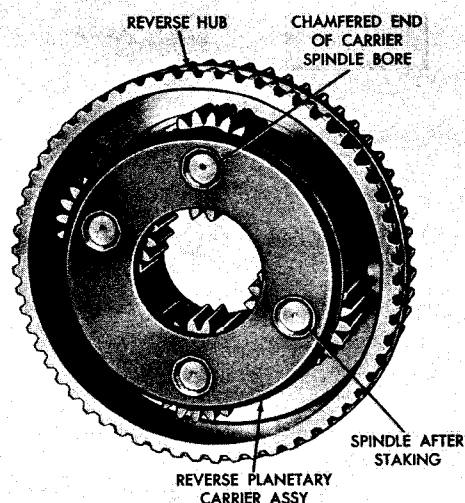
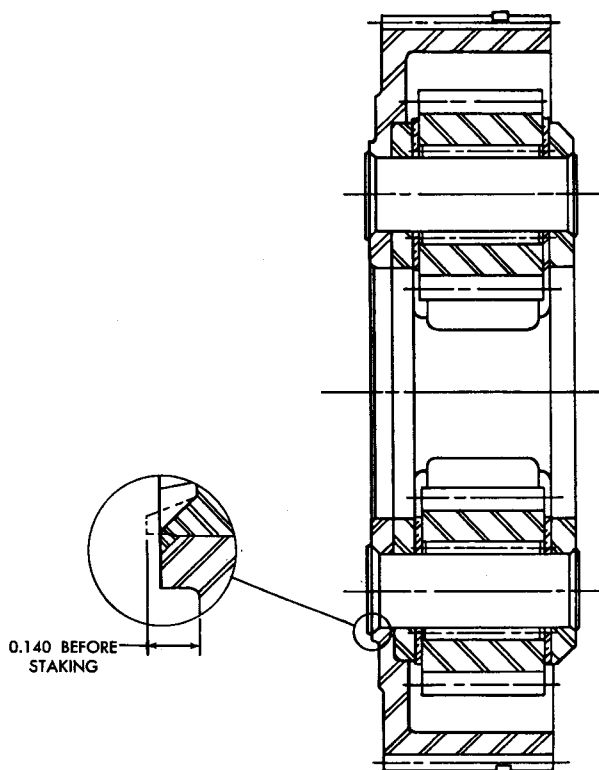

Fig. VI-14. Reverse-range planetary carrier and hub assembly
Fig. VI-15. Reverse-range planetary carrier assembly—cross section, showing pin dimensions
(4) Coat the bore of pinion 13 with oil-soluble grease and install it on the alining tool.
(5) Install twenty-two pinion rollers 14 into the space between the alining tool and the pinion bore.
(6) Install thrust washer 12 onto the alining tool.
(7) Remove the alining tool and install the assembly into reverse-range planetary carrier 10 with the chamfered end of the carrier spindle bores up (fig. VI-14).
(8) Insert the alining tool to center the pinion assembly with the pin bore in carrier 10 (A, foldout 5).
(9) Repeat steps (3) through (8), above, for the remaining three pinions.
(10) Place the carrier with pinion and associated parts in hub 11. Insert the alining tool into a pinion and align the carrier spindle bore with the hub spindle bore.
(11) Start a chilled pin into the spindle bore and press the pin into the bore to the dimension shown in inset (fig. VI-15), allowing the alining tool to be pushed out of the bore.
(12) Repeat steps (10) and (11), above, for the installation of the remaining three spindles.
(13) Support one of the pins and stake securely with an octagon punch on both ends (fig. VI-14). The pinion must rotate freely after assembly.
(14) Stake the remaining three spindles in the same manner.
(15) If Teflon seal ring 5 (A, foldout 5) and expander 4 were removed, install a new ring and expander into the reverse-range piston groove.
(16) If Teflon seal ring 3 and expander 2 were removed, install a new ring and expander into the reverse-range piston groove.